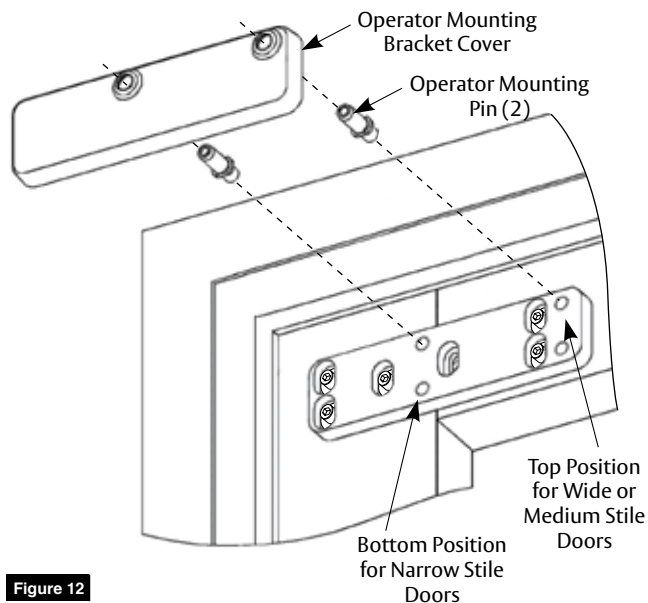

Figure 12
1. Install operator mounting pins into bracket using a large adjustable wrench. (Figure 12)
2. Install operator mounting bracket cover by placing it over pins. (Figure 12)